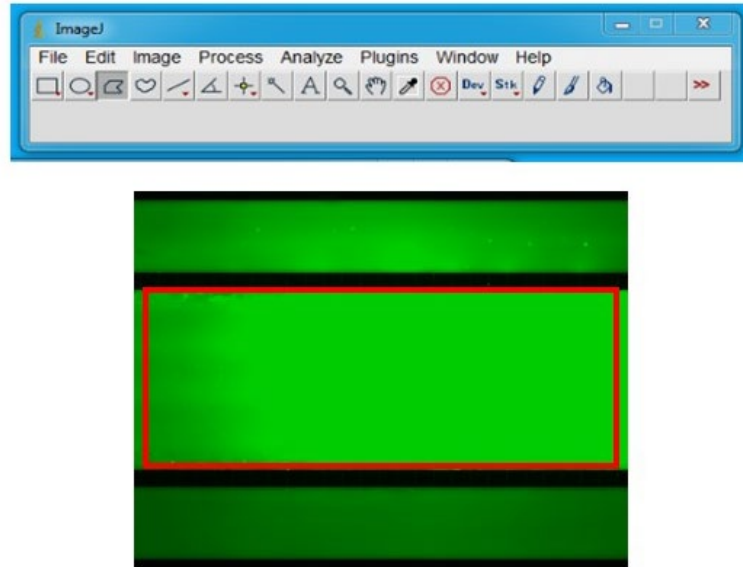

Figure 3. Outlining the epithelial channel using either the polygon or square tool in ImageJ.
- Using the polygon or the square selection tool, carefully outline the epithelial channel geometry (**Figure 3**, red square). You may need to scroll to a high contrast section to clearly see the outline.